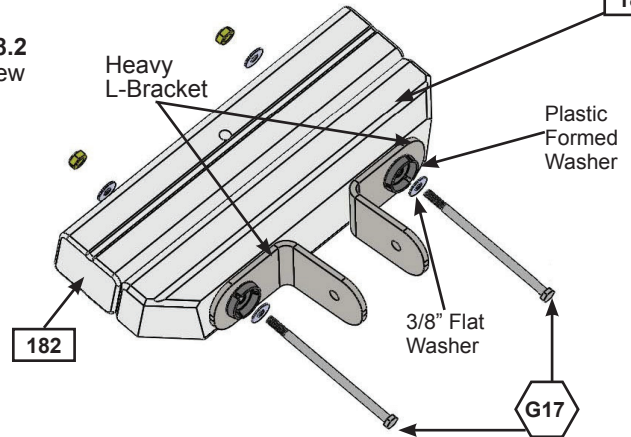

Fig. 18.4
C: Place (181) SW Block Angle and (182) Block SW assembly in between 2 (183) SW Post (Heavy L-Brackets towards the outside). Place 1 Heavy C-Bracket on the top (183) SW Post and attach with (G26) 3/8 x 9-1/4" Hex Bolt (with 2 flat washers and 1 lock nut), as shown in fig. 18.4